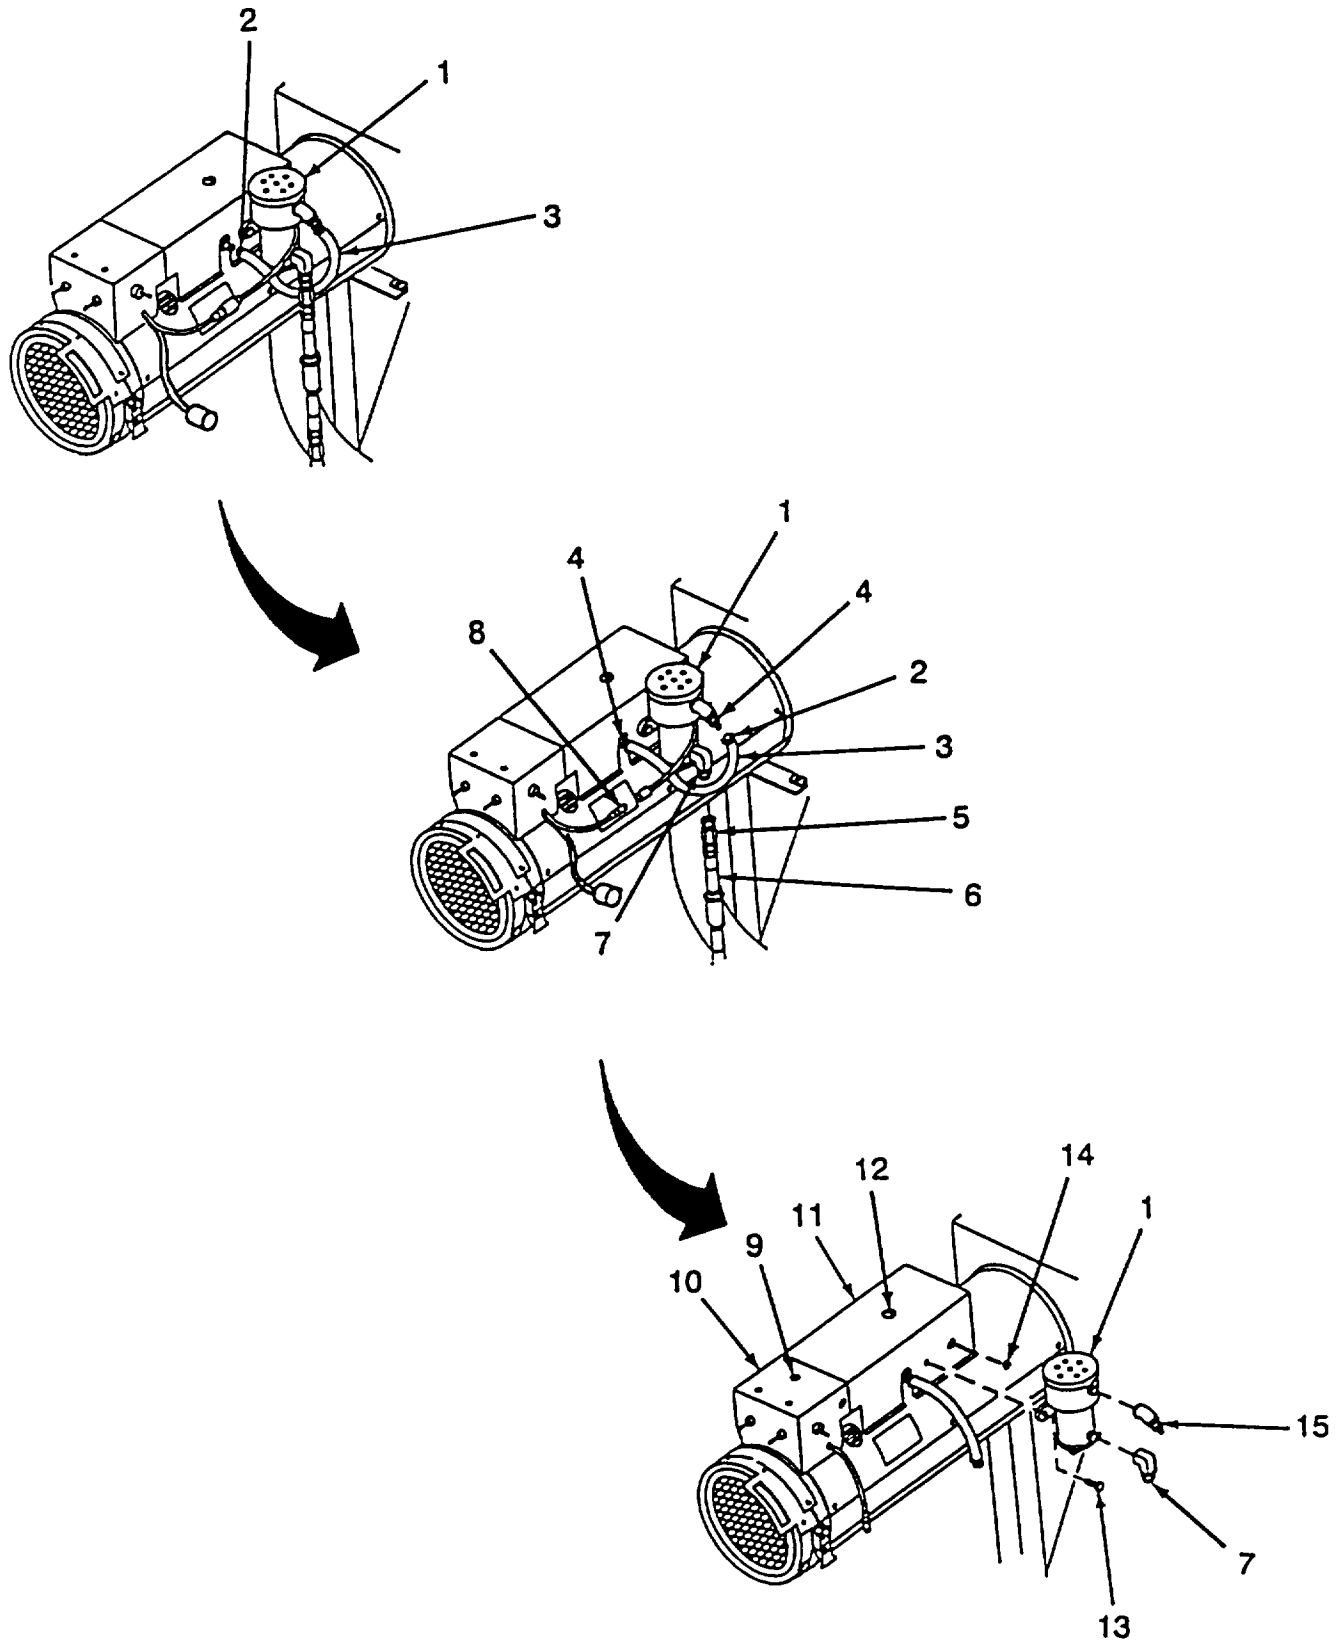

Figure 4-44. Fuel Pump and Fuel Line
a. Inspection. (Refer to Figure 4-44).
- (1) Inspect fuel pump (1) for cracks, damage or leakage. Make sure fuel tank has enough fuel.
- (2) Inspect to make sure that there are no obstructions in the fuel lines leading to and from the fuel pump (1).
- (3) Inspect fuel pump (1) to see if it is pumping fuel, if no fuel is pumping, but the electric motor in the pump is heard, then the fuel pump is faulty.